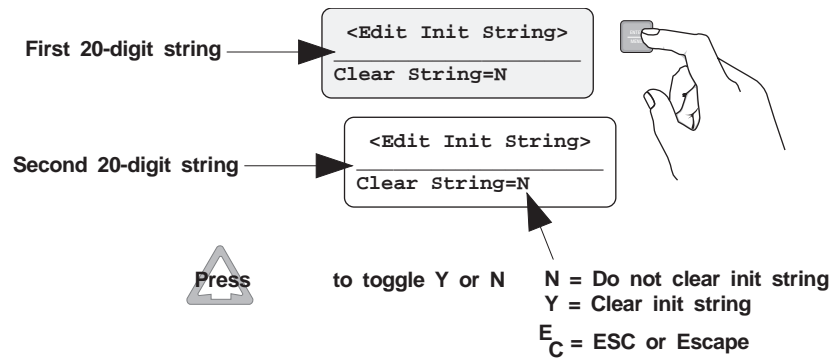

Figure 5-6 Initialization String Display
1. At the Clear String=N field, press ▲ or ▼ until the desired option flashes (Figure 5-6)